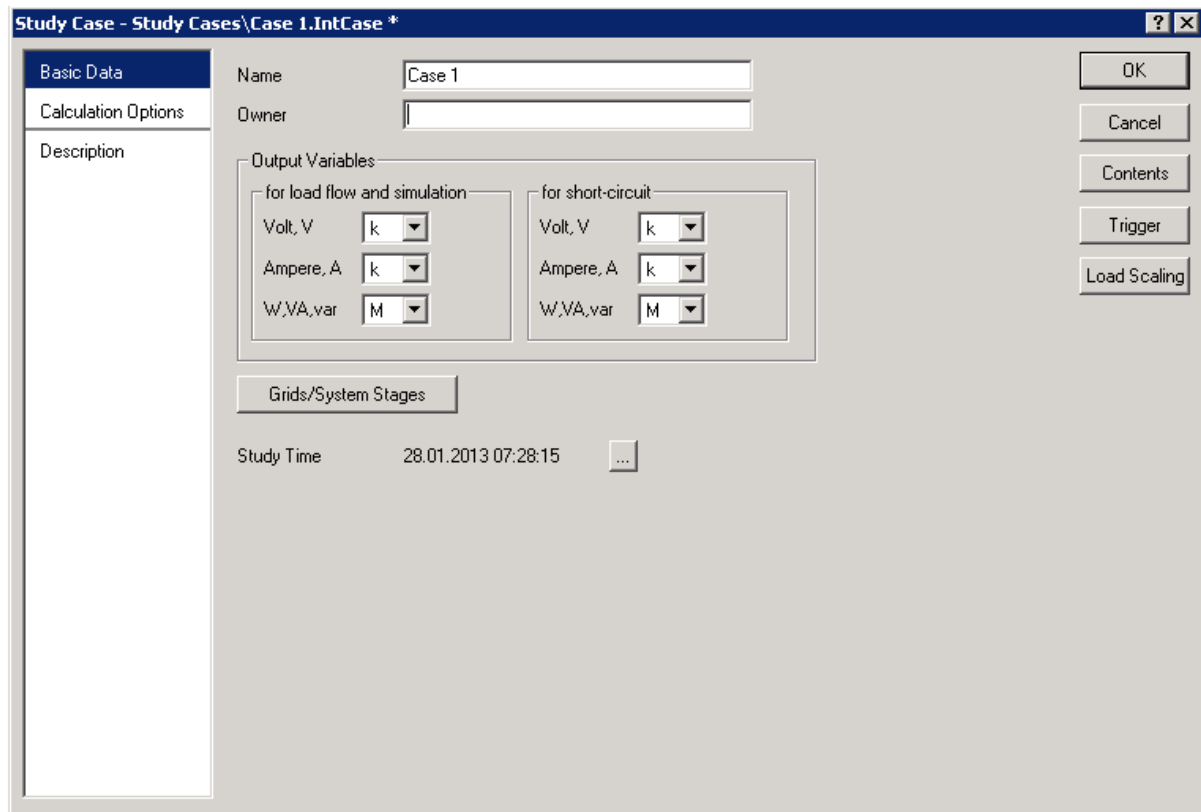

Figure C.3.3: The study case dialogue window after changing the settings
- Click the **OK** button. The study case dialogue window should look like Figure C.3.3 now.